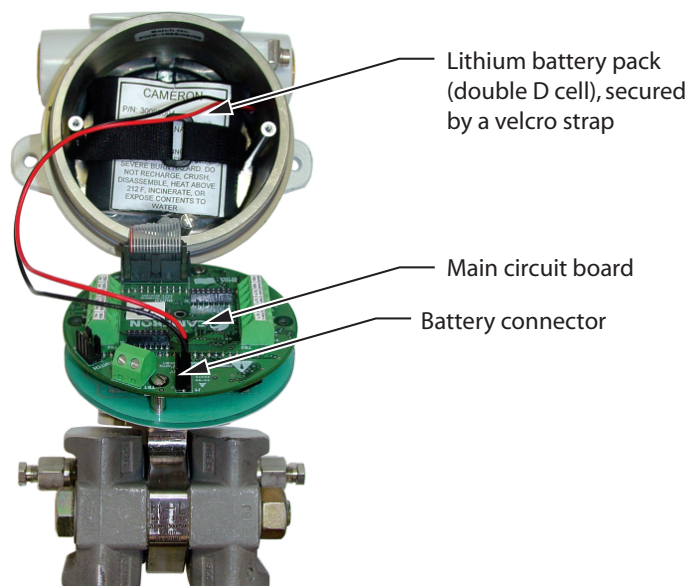

Figure 1.5—Scanner 2000 microEFM, internal view
- The internal lithium battery pack supplied with each Scanner 2000 (shown in Figure 1.5)